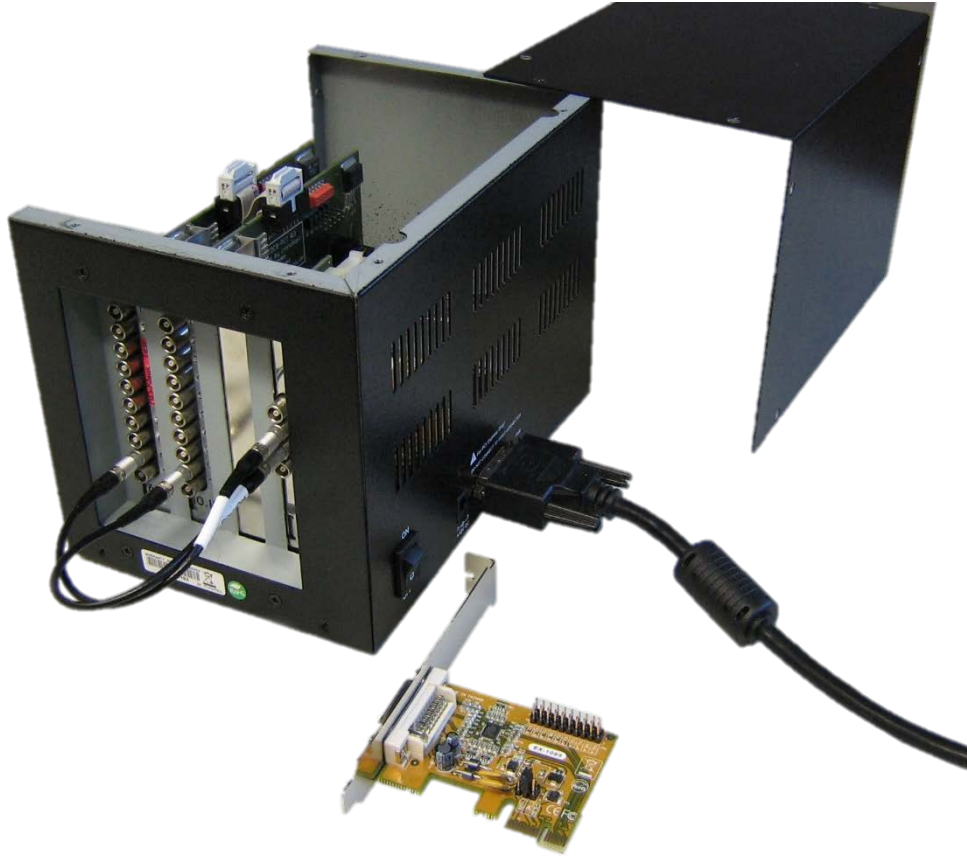

Figure 4.2: PCI2PCIe adapter crate with PCIe card for the PC. Here two TDC8HP and a clock card are inserted
- Connect both **TDC8HP** cards with a 16 pin flat ribbon cable (like the grey cable on top of the TDCs, seen in Figure 4.2).